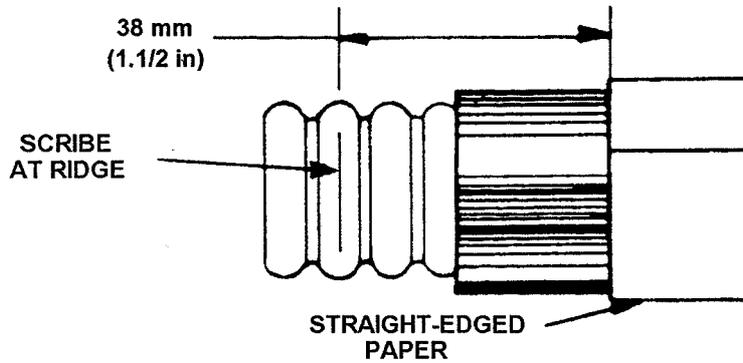

Figure 3.57. Second Jacket Cut
- b. Scribe a line on a ridge of the exposed corrugated outer conductor (Figure 3.57). Using a straight-edged piece of heavy paper, wrapped around the cable as a cutting guide, remove the jacket to the dimension shown in Figure 3.57.